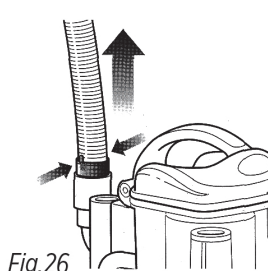

Fig.26
- Detach the stretch hose from the back of the portable Lift-Away® canister by squeezing the tabs together and pulling up. (Fig. 26 ) Straighten out the hose and look inside for blockages.